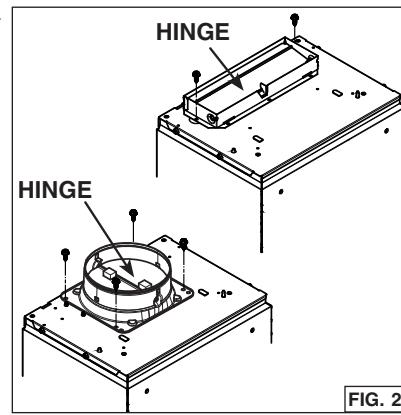

FIG. 21
10. For rectangular ducting, use 2 included no. 8-18 x 1/4" metal screws to attach the included 3 1/4" x 10" adapter damper on top of the unit, over the blower exhaust opening (FIG. 21).
For round ducting, use 4 included no. 8-18 x 1/4" metal screws to attach the included 6-in. round (or 8-in. round, PM600SSV only) adapter damper on top of the unit, over the blower exhaust opening (FIG. 21, 6-in. round shown).